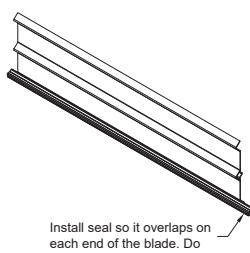

Figure 2
- 2) Install seal so it overlaps on each end of the blade. Do not stretch the seal. (Figure 2)